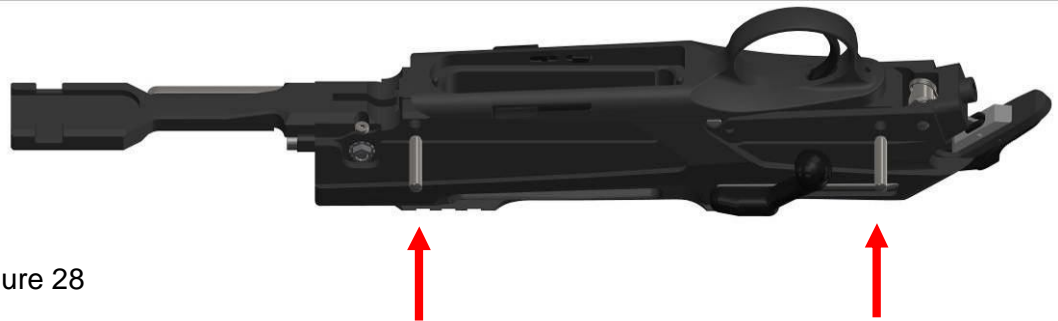

Figure 28
(7) Connect upper and lower system parts with cylindrical pins. (Figure 28)